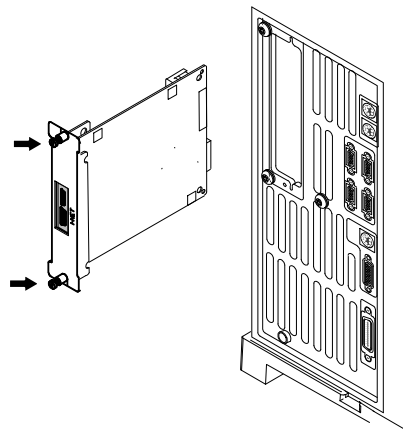

Figure 35 Removing the LAN card
- 8** If an MIO card (LAN card) is installed, loosen its two mounting screws and slide the card out of the GC (Figure 35).